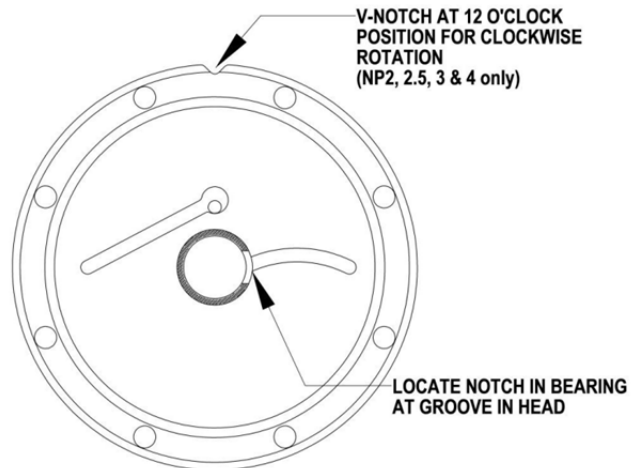

Figure 5 – Bearing Location
- c. Coat the bearing with grease and place it on the inside face of the head, with the notched end UP. Align the notch in the bearing with the groove in the head (see Figure 5).